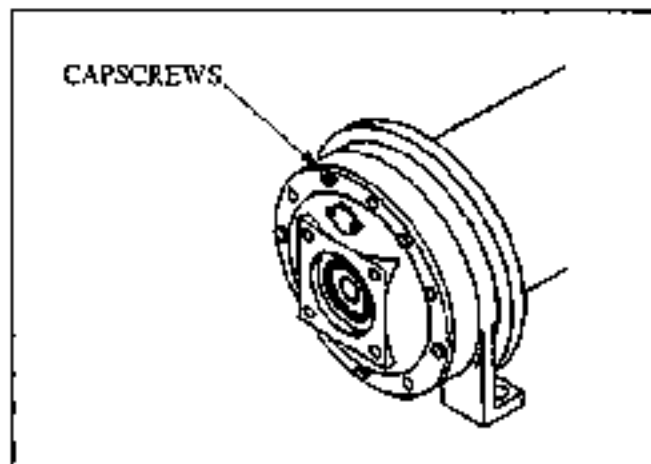

Figure 4
- (4) Remove the end cover by removing six of the twelve capscrews as shown in Figure 4. The belleville spring is compressed against the cover. Remove the remaining six bolts, loosening each bolt equally until the cover is free. This will prevent binding and protect the bearing.